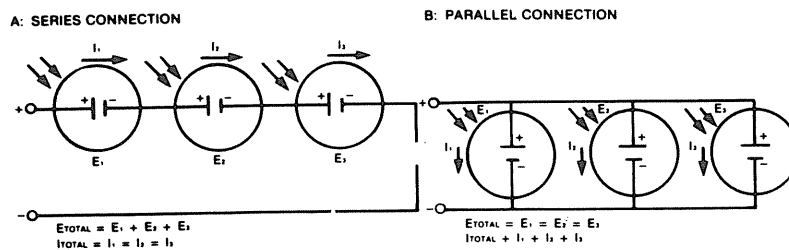

FIGURE 5
In order to transmit the electricity provided by sunlight activating the "N-P" junction of the solar cell, simply attach a conductor (copper wire) to each half of the cell. The resulting electrical current is determined by the square area of the cell being used at about one-half volt. To vary the amount of current or voltage produced, cells can be connected in series and/or parallel. Figure 5 illustrates that when multiple solar cells are connected in series the voltage (E) is increased, but the current (I) remains constant. Conversely, when multiple